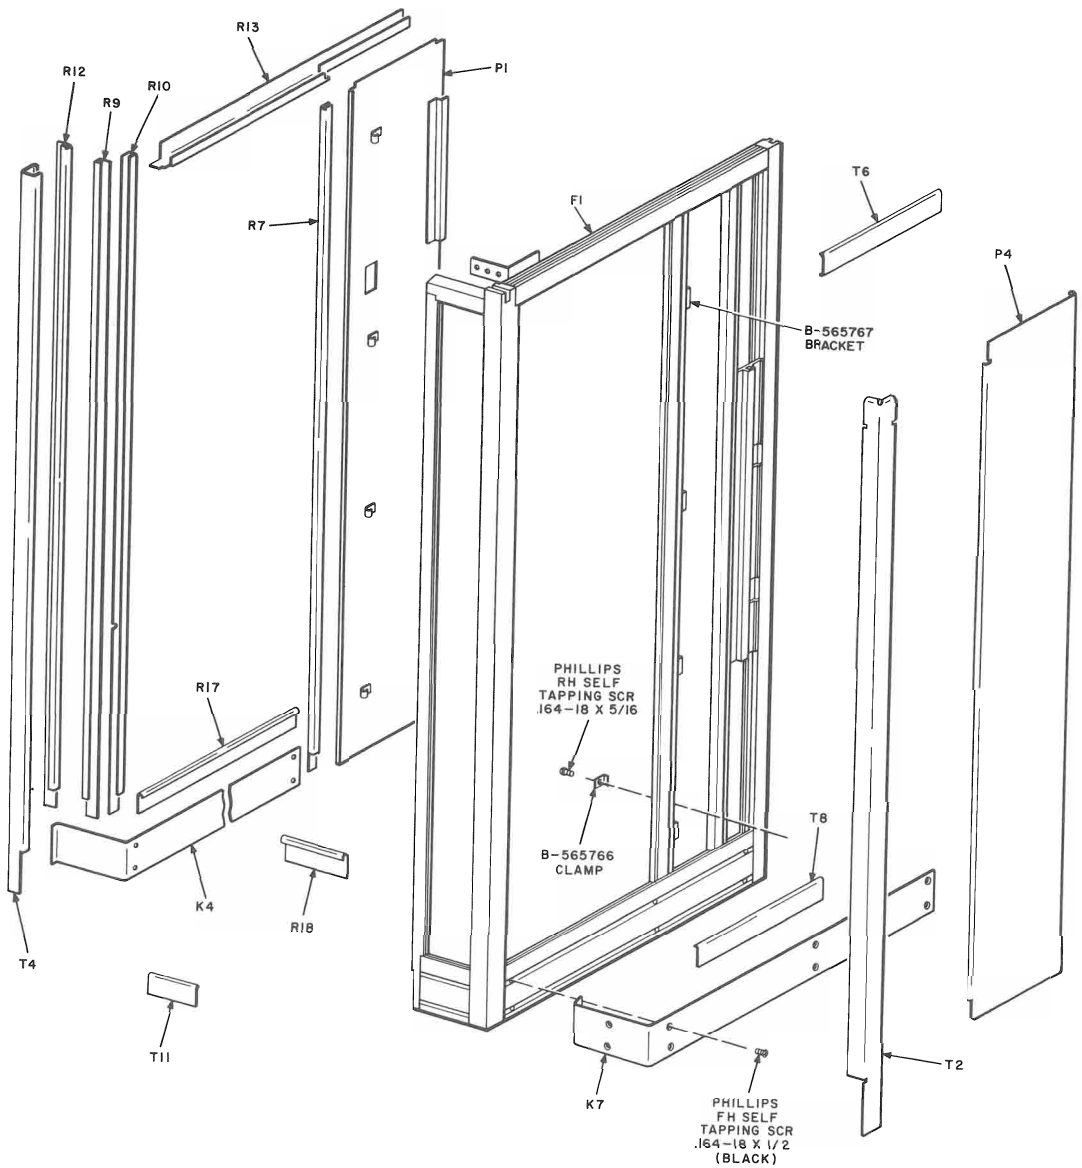

Fig. 25—Exploded View of Right Wall
- (1) Perform operations outlined in (b) (1) through (5).
- (2) Remove twelve .164-18 by 5/16 Phillips round head self-tapping screws and four B-565766 clamps from each panel (Fig. 25 and 26).